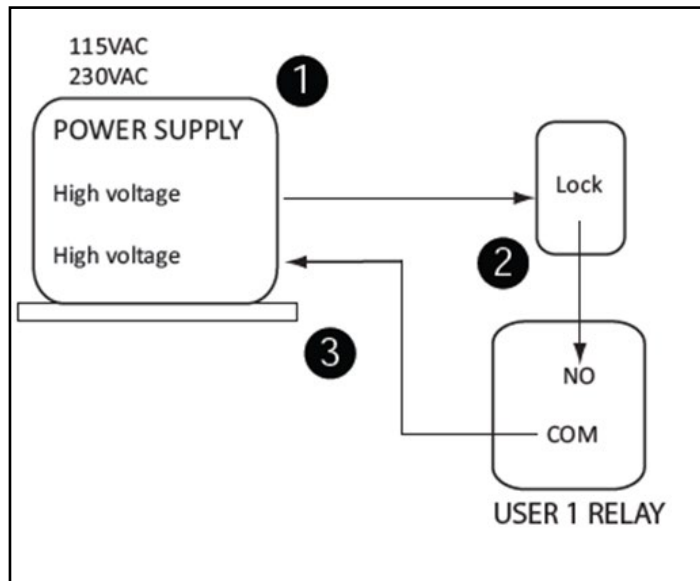

Figure 38. Lock Installation – High Voltage
1. Connect one lead of the power supply to one lead of the lock's coil. See Figure 38.